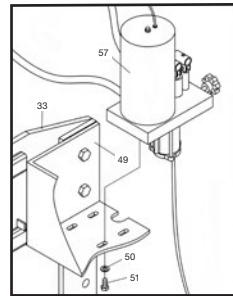

Figure 3
- Pump assembly: attach the Pump Assembly (98) to pump setting plate by using three Bolts (51) and Lock Washer (50) and twist tight. (figure 3, 4)
- Oil hose 1 assembly: dismantle the plug from Oil Hose 1 (58) then assemble the O-Ring (45), also dismantle the plug from Ram Assembly (37), connect the Oil Hose 1 (58) to Ram Assembly (37) and twist tight.
- Oil hose 2 assembly: attach the O-Ring (45) to Gauge Fitting (43), then put the Oil Hose 2 (59) into the Gauge Fitting (43) and twist tight, connect the PU Pipe (A-A). Attach the Handle (100) to the Pump Pin by using Bolt (51) and twist tight.